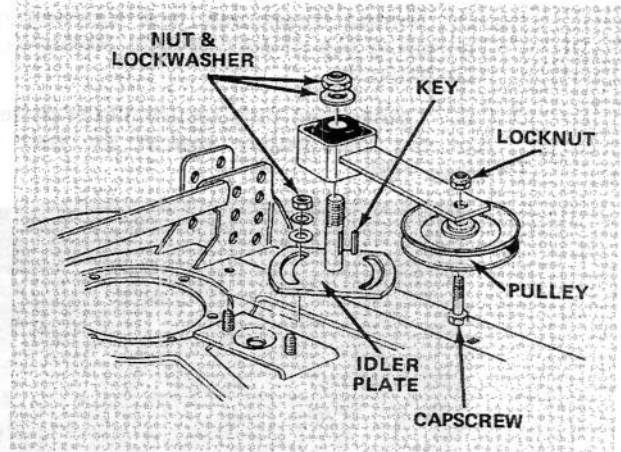

Figure 108
4. Remove large nut and flatwasher retaining idler arm on idler plate shaft (Fig. 108). Slide arm off shaft and account for the square key.
5. Remove capscrew and locknut securing idler pulley and arm together (Fig. 108).
5. Remove two nuts, lockwashers and flatwashers holding slotted idler plate in place (Fig. 108).